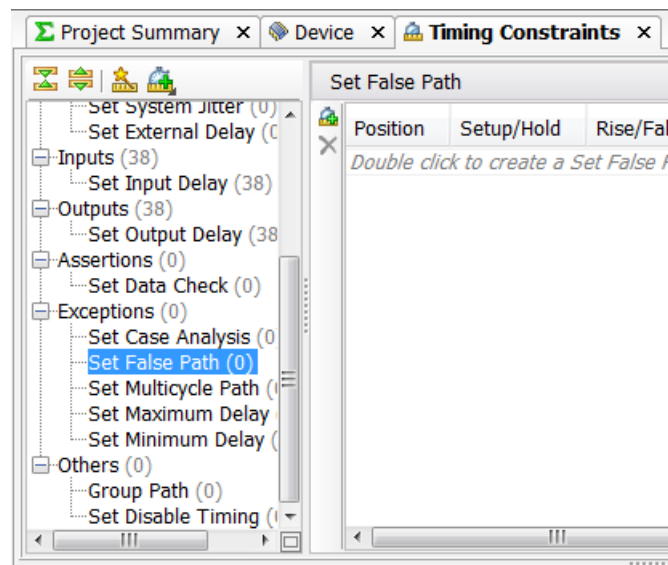

Figure 13: Set False Path Section in the Constraints Editor
5. Double-click **Set False Path** under the Exceptions category of the tree as shown in Figure 13.